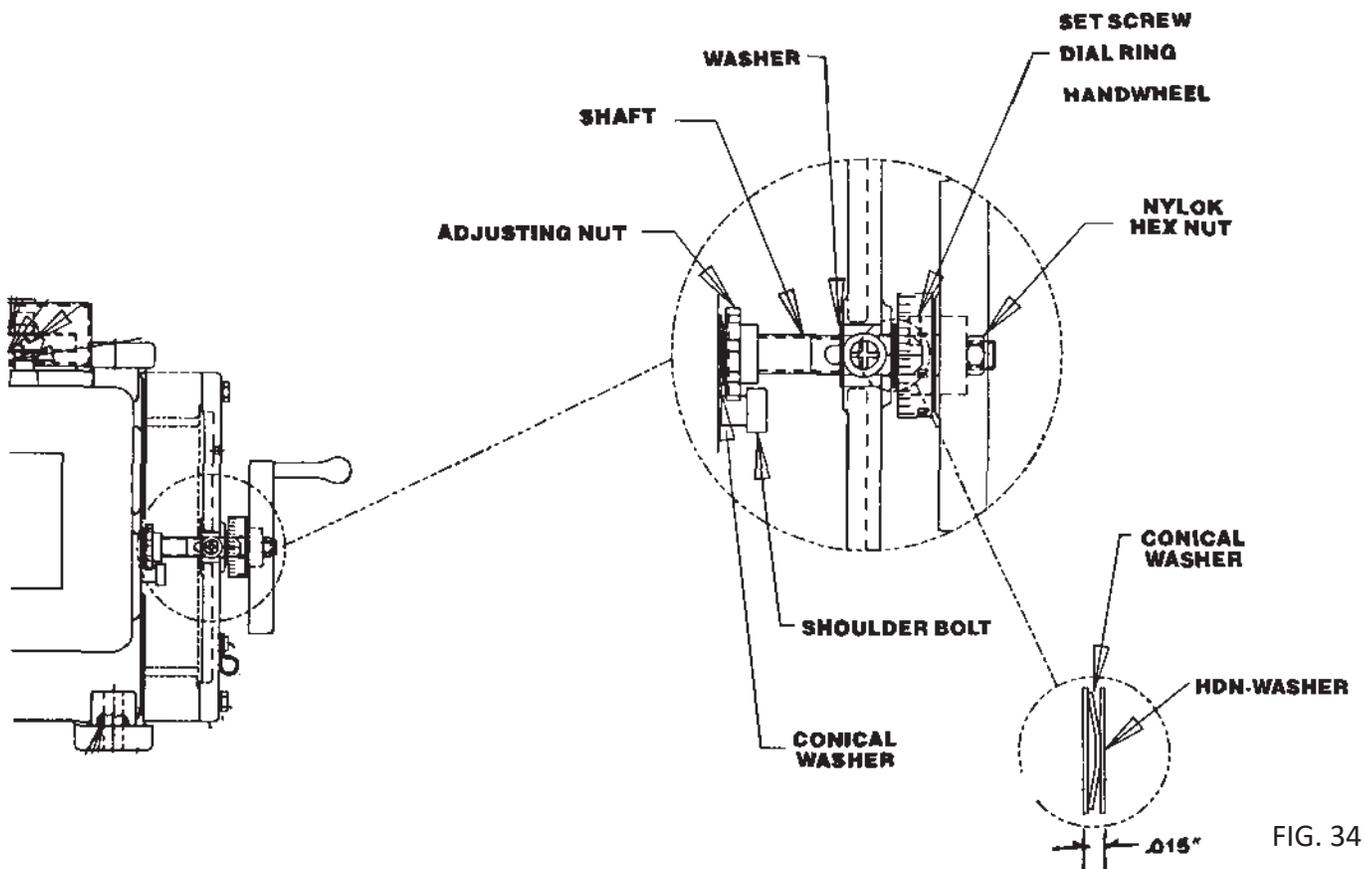

FIG. 34
- C. Check for .015 in [.4 mm] gap between the wave washer and flat washer. See insert to FIG. 34.